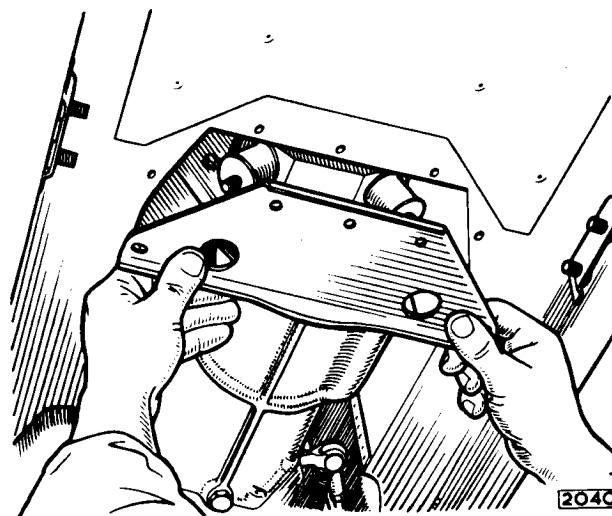

Fig. 63. The engine rear mounting plate.
- (a) Screw the lower flanged washer (D, Fig. 63) up the stabiliser pin until the flange contacts the bottom of the stabiliser rubber mounting (C). The washer is slotted on its upper face and can be screwed up the pin by engaging a thin bladed screwdriver in the slot through the centre hole of the rubber mounting.
- (b) Fit the upper flanged washer (B) and tighten down with the self-locking nut (A).